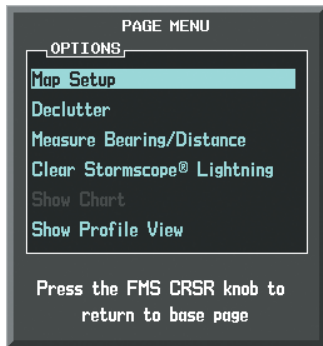

Figure 6-130 Navigation Map Page Menu
- 3) With 'Map Setup' highlighted, press the **ENT** Key (Figure 6-130).